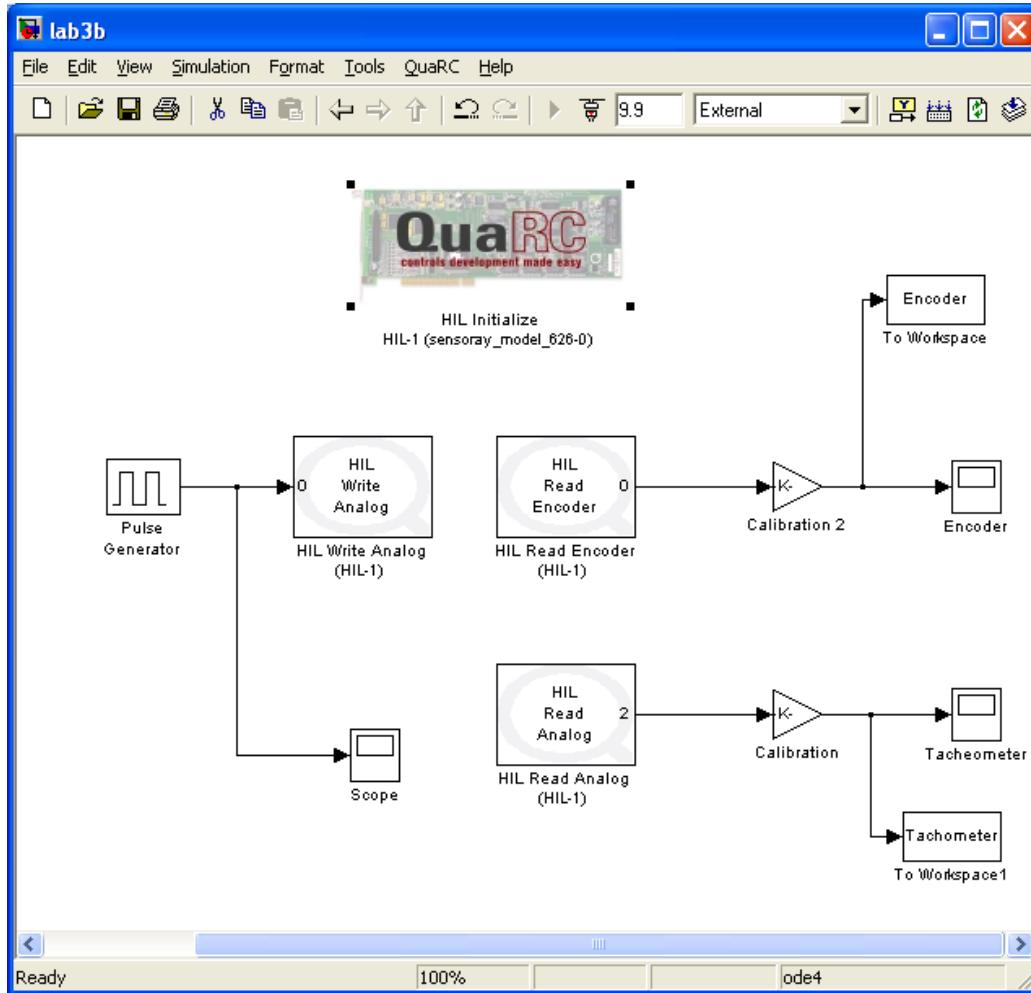

Figure 5.5: Simulink model for Lab 5
10. To obtain a “better” impulse, we introduce the **Pulse Generator** model as shown in Figure 5.5. Note that the analog output icon has been added since the impulse will be added automatically in this case.